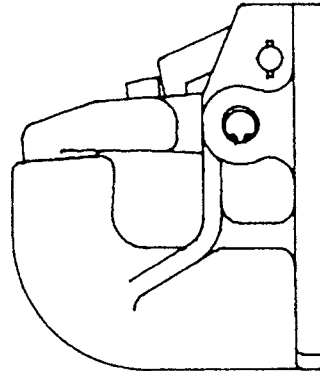

Fig. 1
1. Verify that the Shaft (5), Snap Ring (10), and Grooved Pin Rivet (11) are in place and secure. See Fig. 1 on page 2 for proper location for Snap Ring.
1. Install the Rivet by providing a back stop against the end of the Shaft on the snap ring side of the hook and driving the Rivet (11) into the hole provided in the end of the Shaft (eye protection required.) DO NOT USE THE SNAP RING TO BACK-UP THE RIVETING.
2. Install the Snap Ring (10) and inspect as shown in Fig. 1.